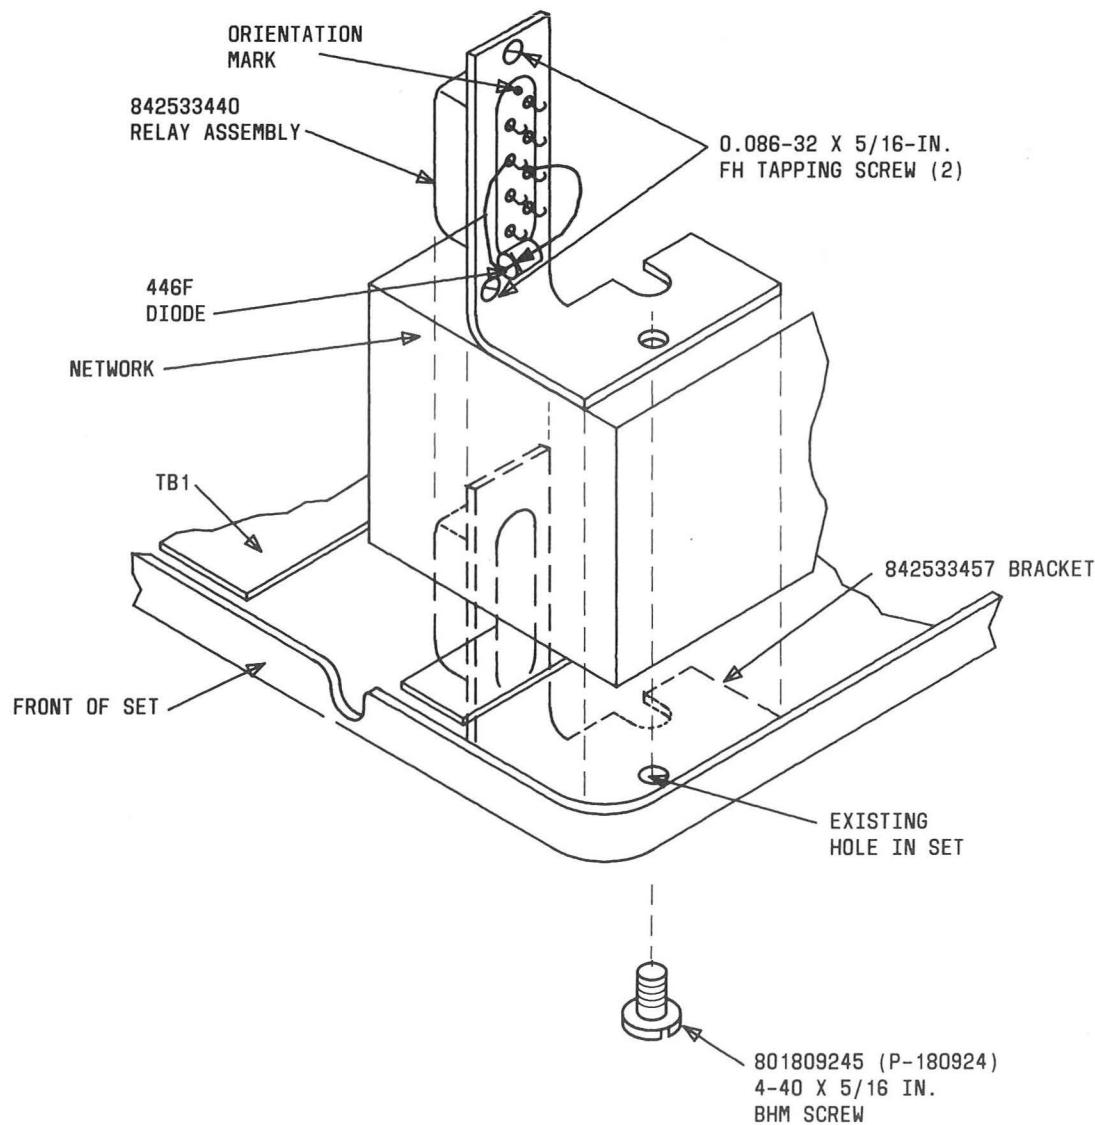

Fig. 4—Mounting Location for D-180990 Kit of Parts for 4-Wire Service
(f) Kit of Parts, D-180990 (4-wire interface for the 7A and 21A Communication Systems) consists of the following (Fig. 4):
- (1) Mount the relay assembly in the front right-hand corner of the telephone set using mounting bracket and screws as shown in Fig. 4.